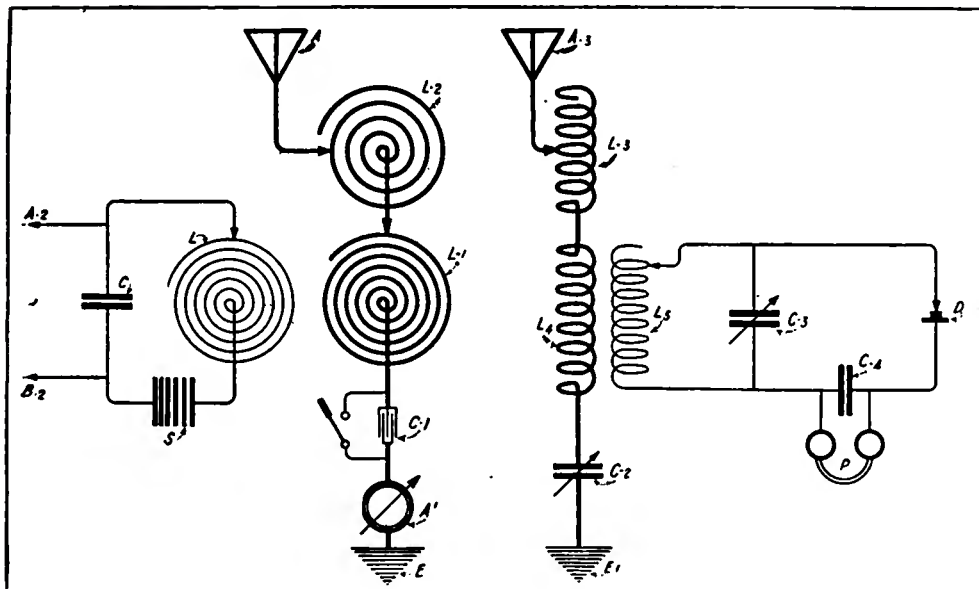

Figure 120
(1) The diagram of figure 120 indicates the fundamental circuits of Marconi's famous four circuit tuning patent.
(2) The closed and open oscillation circuits of the transmitter are carefully tuned to electrical resonance. Resonance adjustments may be found by a hot wire ammeter shown at A1. The circuits may be tuned to a definite wave length by means of a wavemeter. Similarly, the open and closed circuits of the receiving apparatus must be tuned to the frequency of the transmitter, that is, circuits A1, L-3, L-4, C-2, E, must be tuned to circuit L-5, C-3.
(3) The tuning appliances shown in the diagram of figure 120 are in general all that are required in modern wireless systems employing damped oscillations.